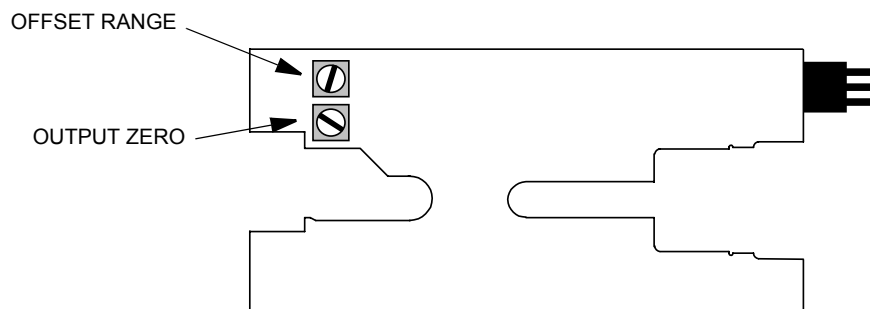

Figure 8-2. Adjustment Locations
6. Adjust **OFFSET ZERO** on the board until the DMM reads 0 V $\pm$ 100 μ V. Refer to Figure 8-2 for adjustment location.